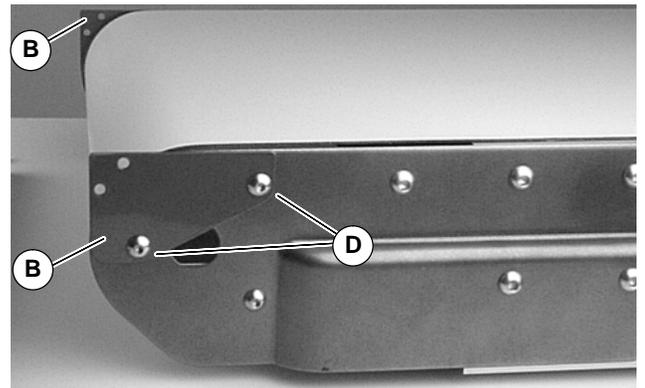

Figure 3
3. Install transfer side plate (B of Figure 3) using screws (D) on each side of conveyor. Tighten screws to 28 in-lb (3 Nm).